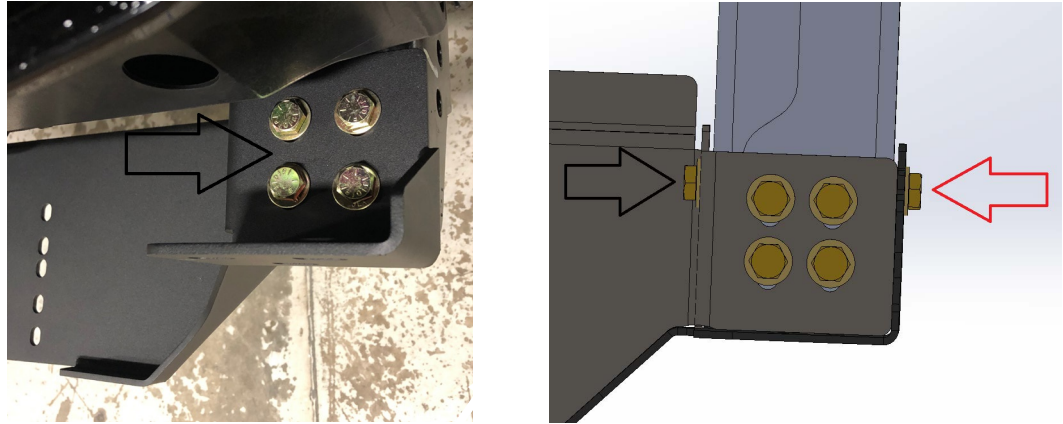

Figure 10
10. Using 3/4" Socket wrenches, install the winch plate (21859) with the provided 1/2"-13 bolts, flat washers, lock washers, and 1/2"-13 nuts on both sides of the vehicle. Please note that some versions of this bumper do not require a second side mount (red arrow).(50177-HW)(Figure10).